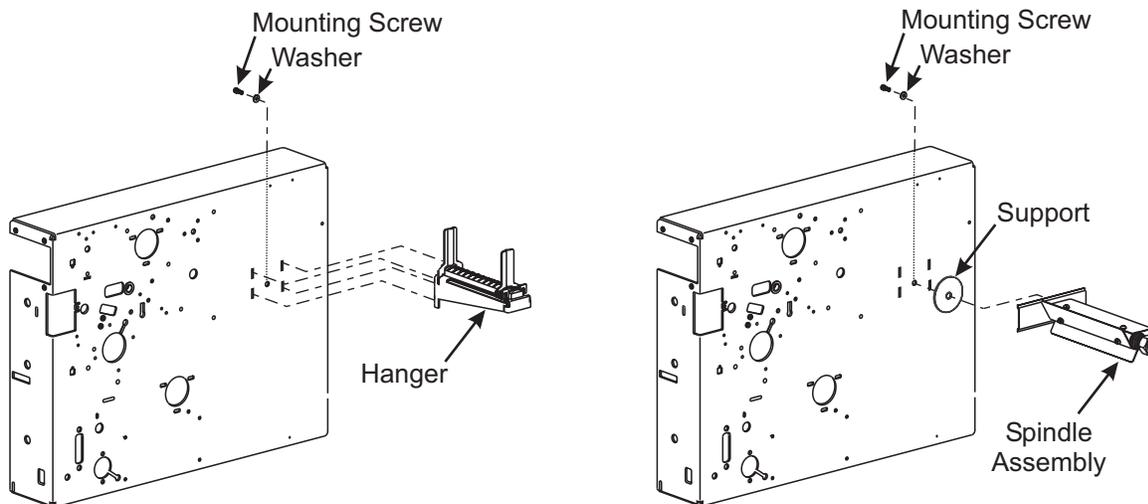

Figure 6-5. Hanger Removal and Spindle Installation
7. Refer to Figure 6-5. Remove the media hanger mounting screw and washer.